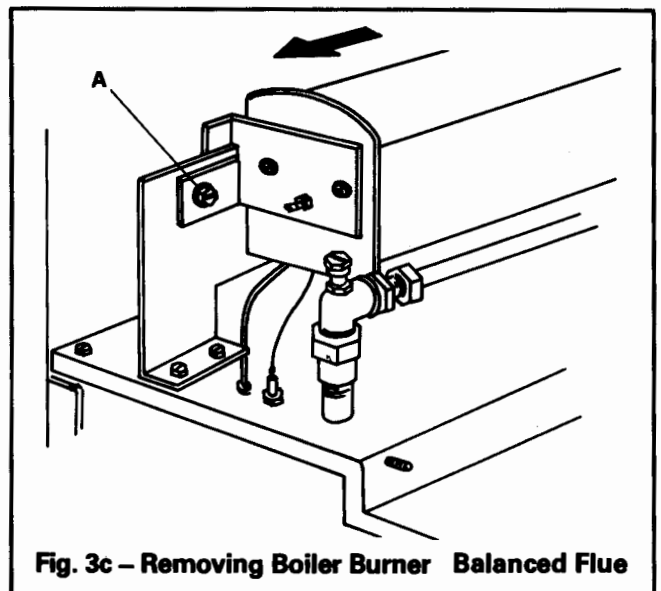

Fig. 3c – Removing Boiler Burner Balanced Flue
- c. (To remove Boiler Burner – Fig. 3c). Remove screw **A** securing main burner to pilot support bracket. Draw burner forward and lift out of the combustion chamber.